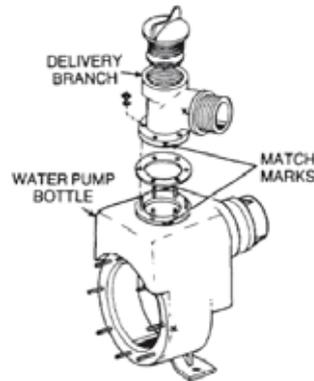

Figure 33 Delivery Branch Removal
- v. Match mark the delivery branch to the bottle, then remove the nuts and washers securing the delivery branch to the bottle and remove the delivery branch (Figure 33) and discard the gasket.